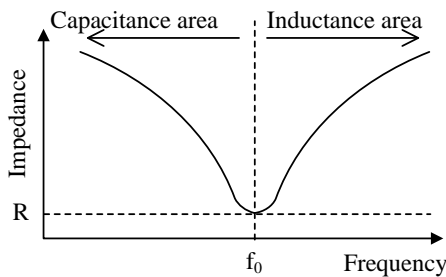

Figure 9-2. Impedance of Resonant Circuit
When the frequency, f, changes, the impedance of resonant circuit will change as shown in Figure 9-2.
When 2πfL = 1/2πfC, Ż of Equation (2) becomes the minimum value, R (see Figure 9-2). In the case, ω is calculated by Equation (3).